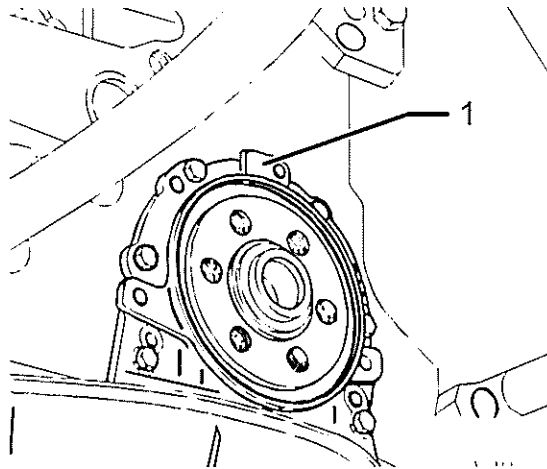

Fig 3 Crankshaft oil seal – flywheel end
18.4 Remove sealing flange (see Fig 3 (1)).